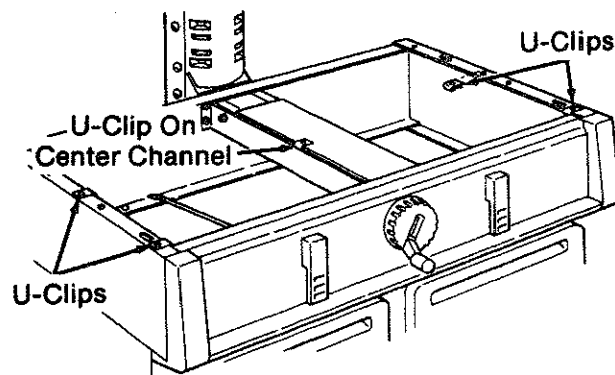

Fig. 80
2. Slide four *U-clips* over the holes in the *saw* as shown. (Figure 80)
3. Slide one *U-clip* over the hole in the left side of the center channel as shown. (Figure 80)